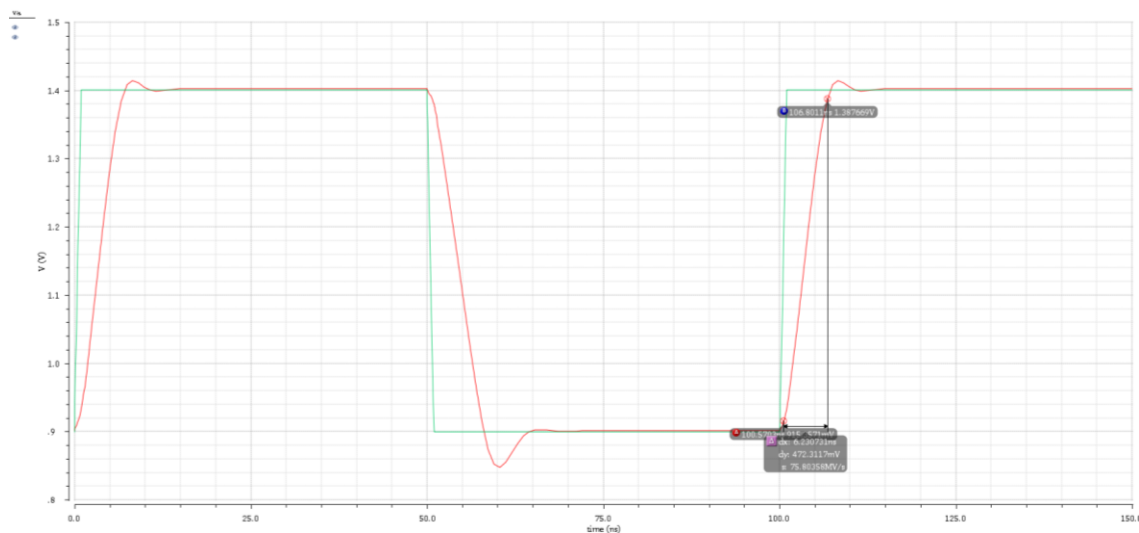

Figure 10: Transient response of OPAMP with PMOS as a compensation  $R_z$ .
g. Transient response. Figure 10 shows the slew rate of the OPAMP with PMOS as a compensation  $R_z$ .